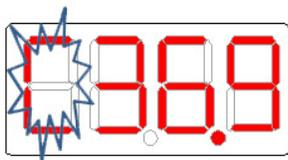

Figure 7 Flashing Display in Calibration mode
- b.) The display will show the temperature assumed by the controller. For example, refer to Figure 7.